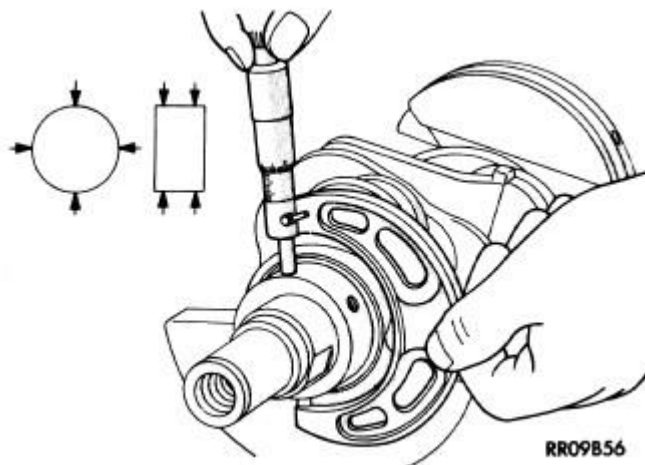

Fig. 148: Crankshaft Journal Measurements - Typical
8. Measure crankshaft rod and main bearing journals with a micrometer. See **Fig. 148**.